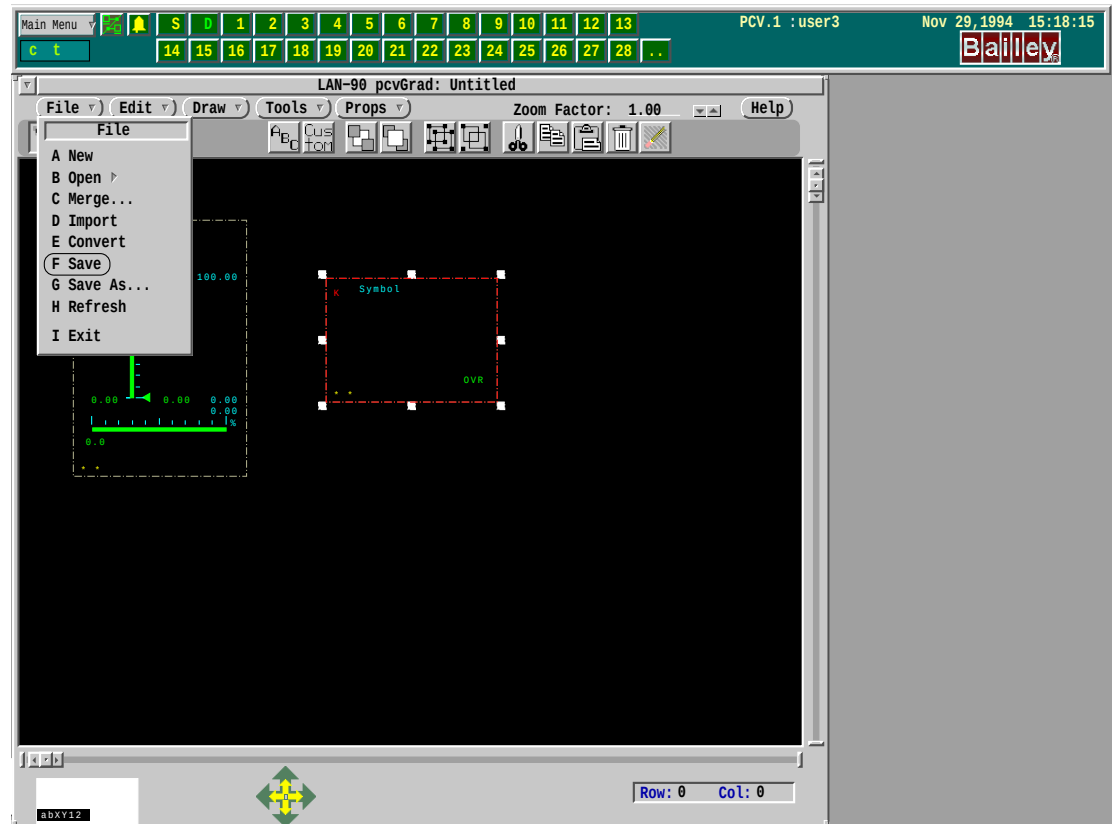

Figure 6-6. Select Save
- Click on the File button on the button bar. Select **Save** (Figure 6-6).